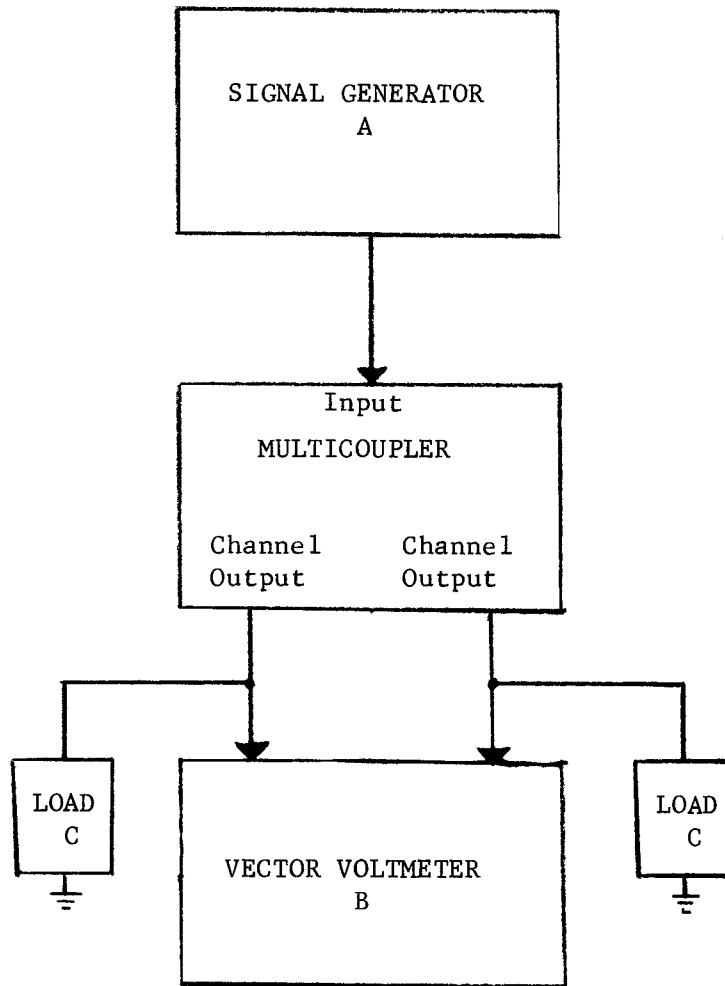

FIGURE 2.4
1. Connect the equipment as indicated in Figure 2.4.